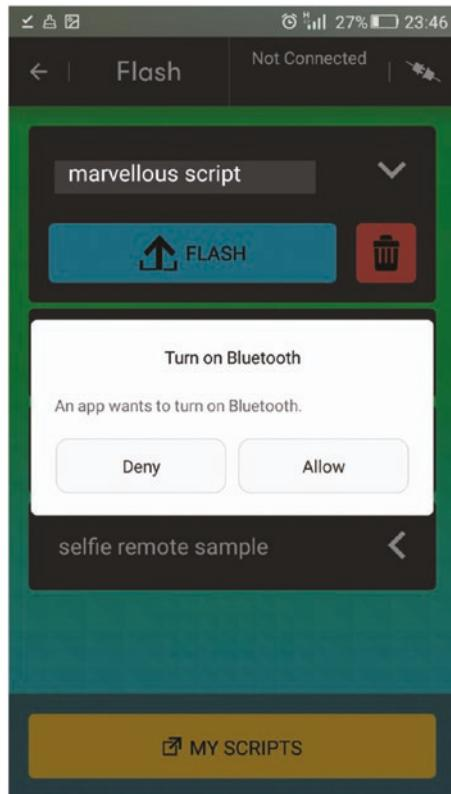

Figure B-15. Turning on Bluetooth
5. The app will start to flash the code into the micro:bit board with the Bluetooth connectivity. Turn on the Bluetooth on your mobile device if you're prompted by tapping the Allow button (see Figure B-15).